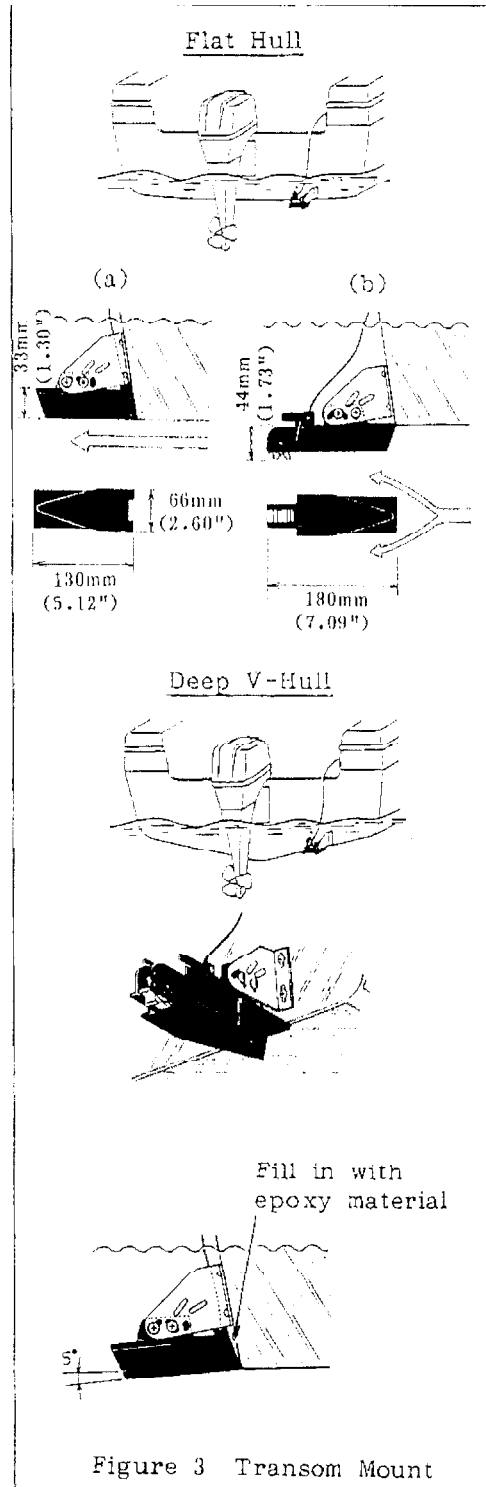

Figure 3 Transom Mount
1. Attach the transducer to the bracket as shown in Fig.3.
3. On a relatively flat hull, the transducer is mounted flush with the hull-bottom, and there are two choices of installation as shown in Fig.3. Note that the direction of the transducer and its fixing holes on the brackets are different for each method. Although there is less influence from air bubbles with method (b), you must be careful not to damage the transducer when the boat is hauled out of the water/put on a trailer. On a deep "V" hull, the transducer is mounted in the same manner as method (b) for the flat hull. It should be mounted as near as the bottom edge of the transom, and the transducer face must be parallel with the seabed, not with the hull bottom.